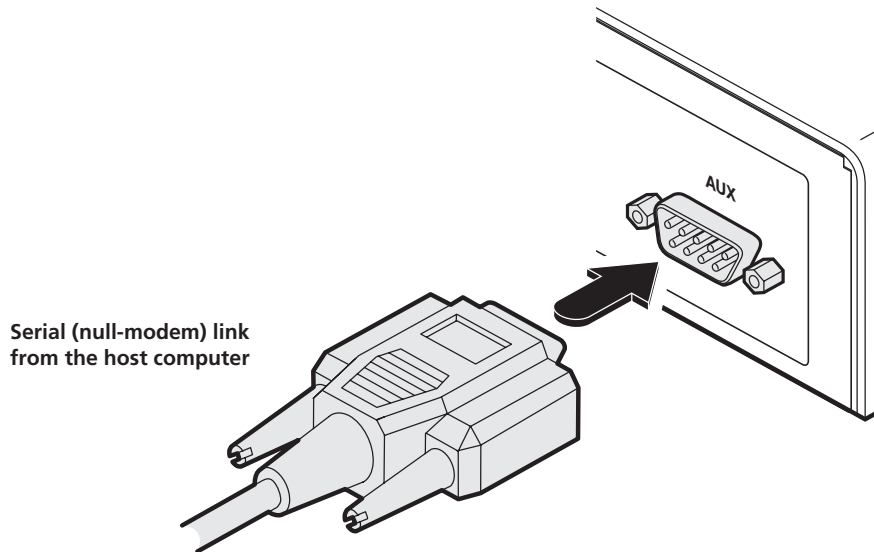

Figure 3-9. Connecting the serial link cable to Local unit socket.
- 2 Connect a suitable serial 'null-modem' cable (see Appendix D for pin-out) between a vacant serial port on your computer and the AUX port on the right hand side of the ServSwitch Agility rear panel. See Figure 3-9.